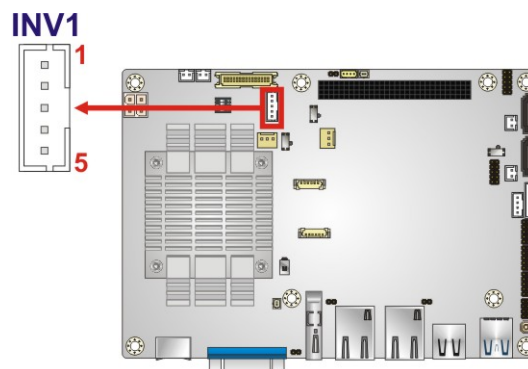

Figure 3-6: Backlight Inverter Connector Location
**CN Location:** See Figure 3-6